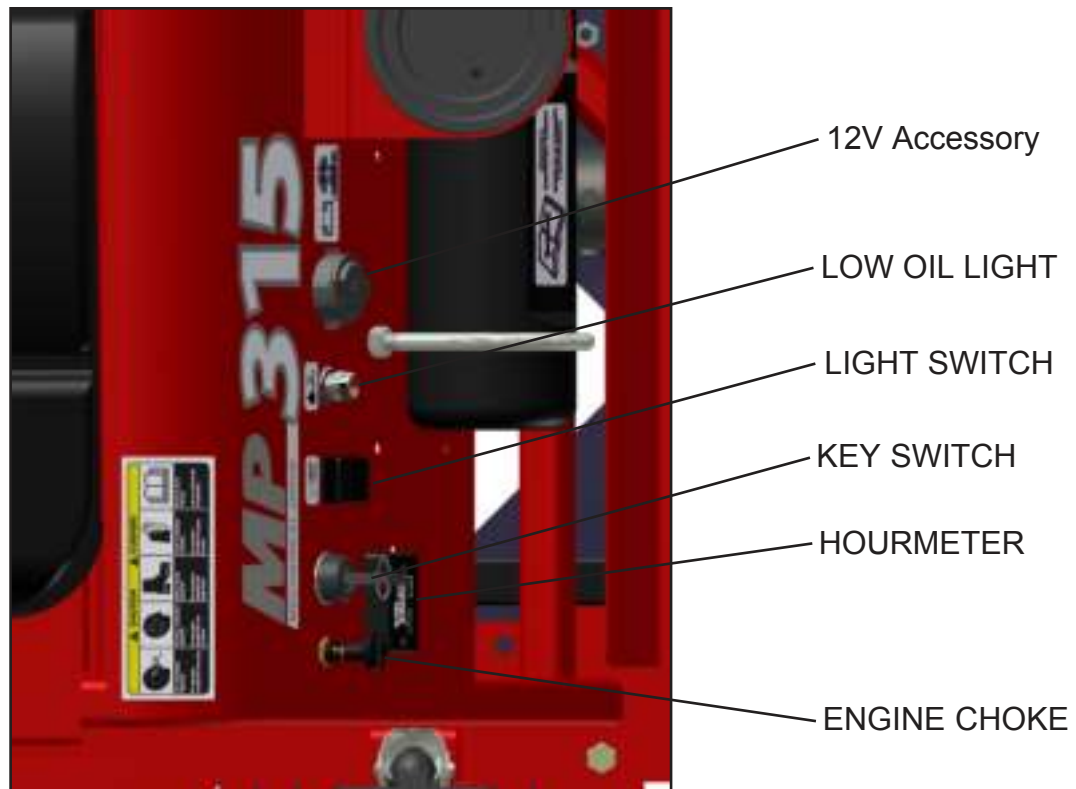

FIGURE 2.2.1
Before starting riding trowel, refer to Figure 2.2.1 and Figure 2.2.2 for location and identification of operational and visual controls pertaining to the operation of the riding trowel.
- 2) If engine is cold, pull out the choke lever located in the control zone (refer to Figure 2.2.1). Press down on throttle pedal (located by the operator's right foot) one to two times.